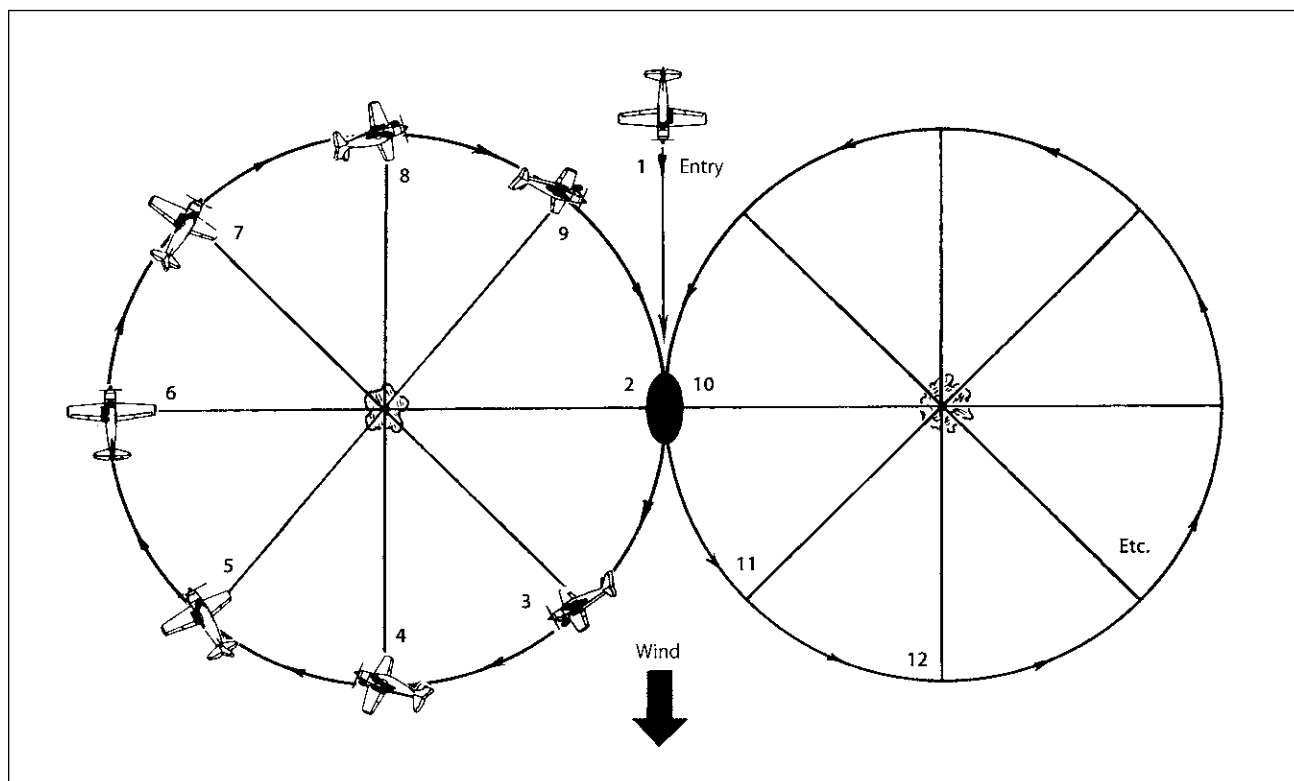

Figure 16-5. Shallow around-pylon eights. This maneuver is a more complicated version of turns about a point.
This maneuver is closely akin to the turns around a point but, as the name implies, a figure eight is flown around *two* points, or pylons. The pylons are picked so that an imaginary line between them is perpendicular to the wind (Figure 16-5).
Shown in Figure 16-5 is a shallow around-pylon eight maneuver. The steepest bank should be approximately 30°. Your instructor will note that you may use the same pylons for steep or shallow pylon eights, using a straightaway portion between the pylons as shown. While at first you will enter downwind between the pylons, you will later enter from any point of the maneuver but will fly it so that the outer parts of the turns are made into the wind.
Note in Figure 16-5 that the entry is set up (point 1) and will be slightly wider from the pylon(s) than turns around a point (which required 45° maximum banks). You should be flying directly downwind and tracking to a position exactly between the pylons. When point 2 is reached, a turn is started in either direction (to the right, here). At this stage it's like the maneuver in Figure 16-3. (The bank will be steepest at point 2.) Note
5. Nonsymmetrical circles—the turn around one pylon steep, the other shallow. This, too, can usually be attributed to losing the other pylon as well as losing the center point of the pattern (point 2 or 10 in Figure 16-5).